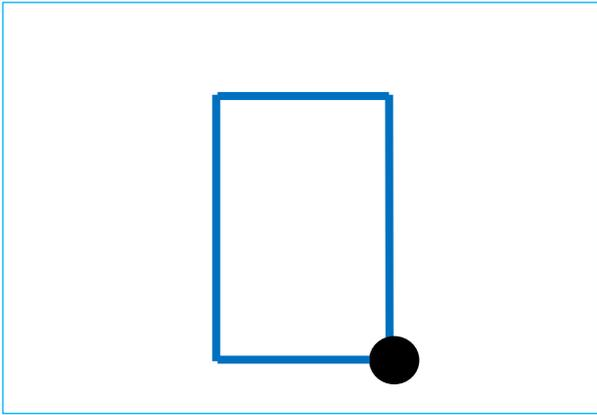

Figure 5 – Pipe Loop
- Pipe loop: A pipe that begins and ends at the same point. See Figure 5.